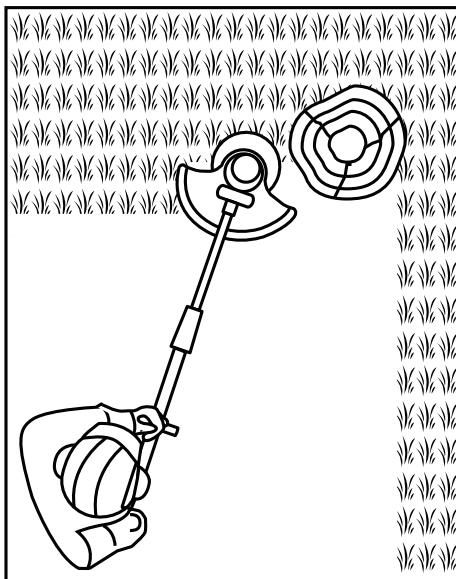

Fig. 20
2. Pay special attention when performing the work close to trees and bushes. The cutting head could damage sensitive bark, and damage fence posts (Fig. 20).